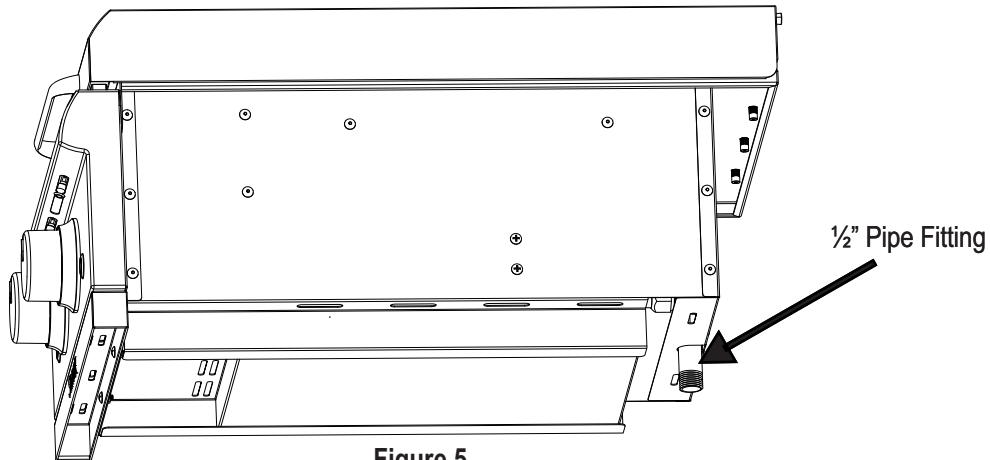

Figure 5
2. Remove the plastic protective cap from the $\frac{1}{2}$ " pipe fitting connection found at the bottom of the center rear panel of the side burner (see Figure 5).
5. Install the LP orifices provided with LP conversion kit A00AA5517. Orifice marked #63 is for the outer burner, and #66 is for the inner burner (Figure 5).